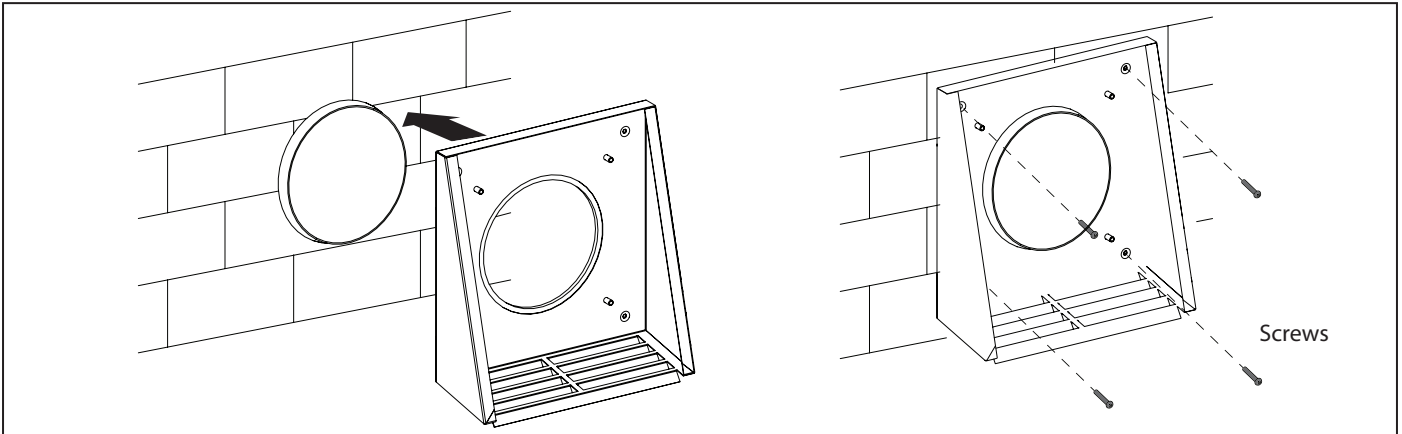

Fig. 15a
- Fig. 15a - models VENTO Ergo A50 Pro and VENTO Ergo A50-1 Pro. Fix the back part of the outer ventilation hood to the wall with the screws 4x40 from the delivery set.